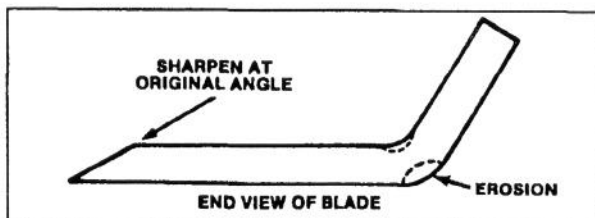

Figure 18
Check cutter blade every time rider is tipped on end. If bolt holding blade is loose, tighten it to 45–60 ft–lb. If blade or sail (Fig. 18) at end of blade is worn, eroded, or cracked, replace the blade. Replace the blade if it is bent or out-of-balance. Always use genuine TORO replacement blade to ensure safety and best performance. NEVER USE WILL-FIT REPLACEMENT BLADE.
7. Using a file, sharpen cutting edge at both ends of the blade (Fig. 18).
7. Since rider is tipped on end, check condition of blade (Fig. 18).